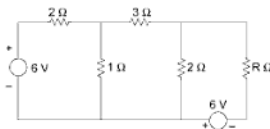

Fig. A1-3
- (b) Find the value of R in the circuit of Fig. A1-3 such that the maximum power transfer takes place.